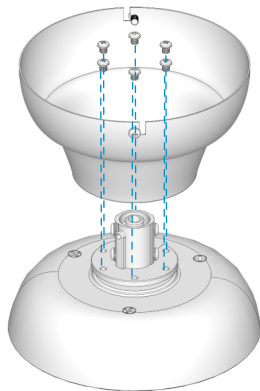

Fig. 1.2
1.2 Find the 6 bucket screws in the hardware pack and use them to secure the fan bucket to the motor housing. Ensure that all screws are tightened firmly, as depicted in Fig. 1.2. And then put the control box back into the fan bucket.